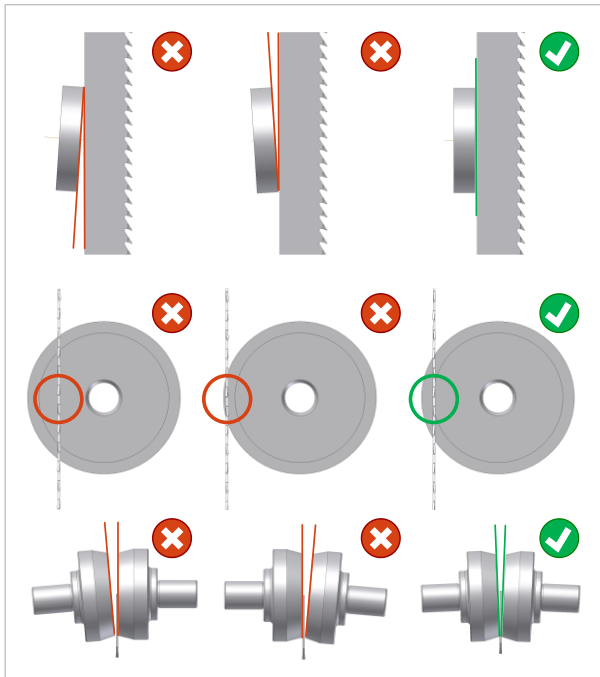

Figure 31: Basic adjustment of the back and side rollers
- Adjust side rollers so that they only lightly touch the saw blade (see ⇒ Figure 31). Please take care that the saw blade is not pushed to the side!
- The ⇒ Figure 31 shows on the far right the optimal setting of the back and side rollers. On the left and in the middle, it is shown which settings are wrong and must be avoided.
- The back roller must be parallel to the back of the saw blade (vertical), see ⇒ Figure 31 top right.
- The saw blade must run exactly in front of the inner edge of the back rollers (⇒ Figure 31, centre right).
- The opening angles between the side rollers and the saw blade must be the same on both sides (⇒ Figure 31 bottom right).
Incorrect basic adjustment of the guide	→ Check basic adjustment (⇒ Figure 31) and readjust if necessary (see section ⇒ 14.1.2).
Saw blade runs too far inside on the back roller	→ Check basic adjustment (⇒ Figure 31) and readjust if necessary (see section ⇒ 14.1.2).